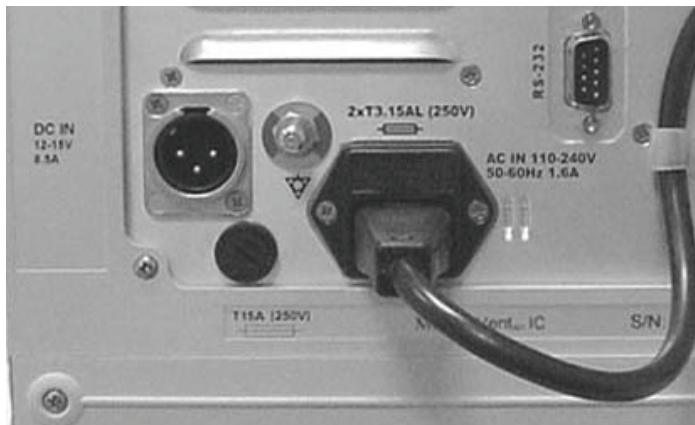

Figure 2.1 External AC and DC power supply sockets. The AC power cord is connected to the power inlet and fastened with the clip.
The *iVent*₂₀₁ can use either external alternating current (AC) or direct current (DC) power. Both AC and DC inputs are located on the back panel of the ventilator (see Figure 2.1). A hospital grade AC power cord is supplied.